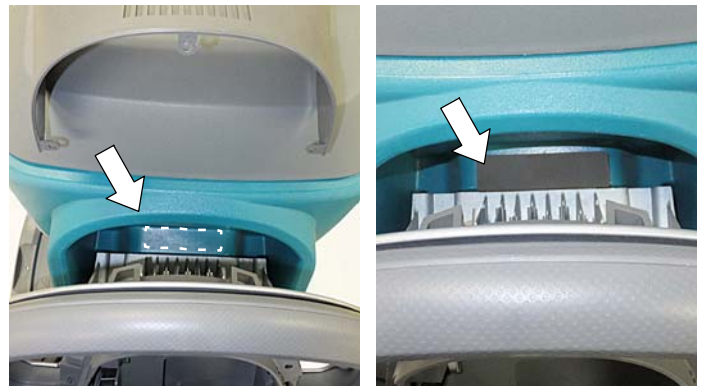

Fig. 3
5. Clean the outlined rotomold surface with Isopropyl alcohol and let surface dry. Adhere the foam water deflector to the rotomold surface as shown (Figure 3).